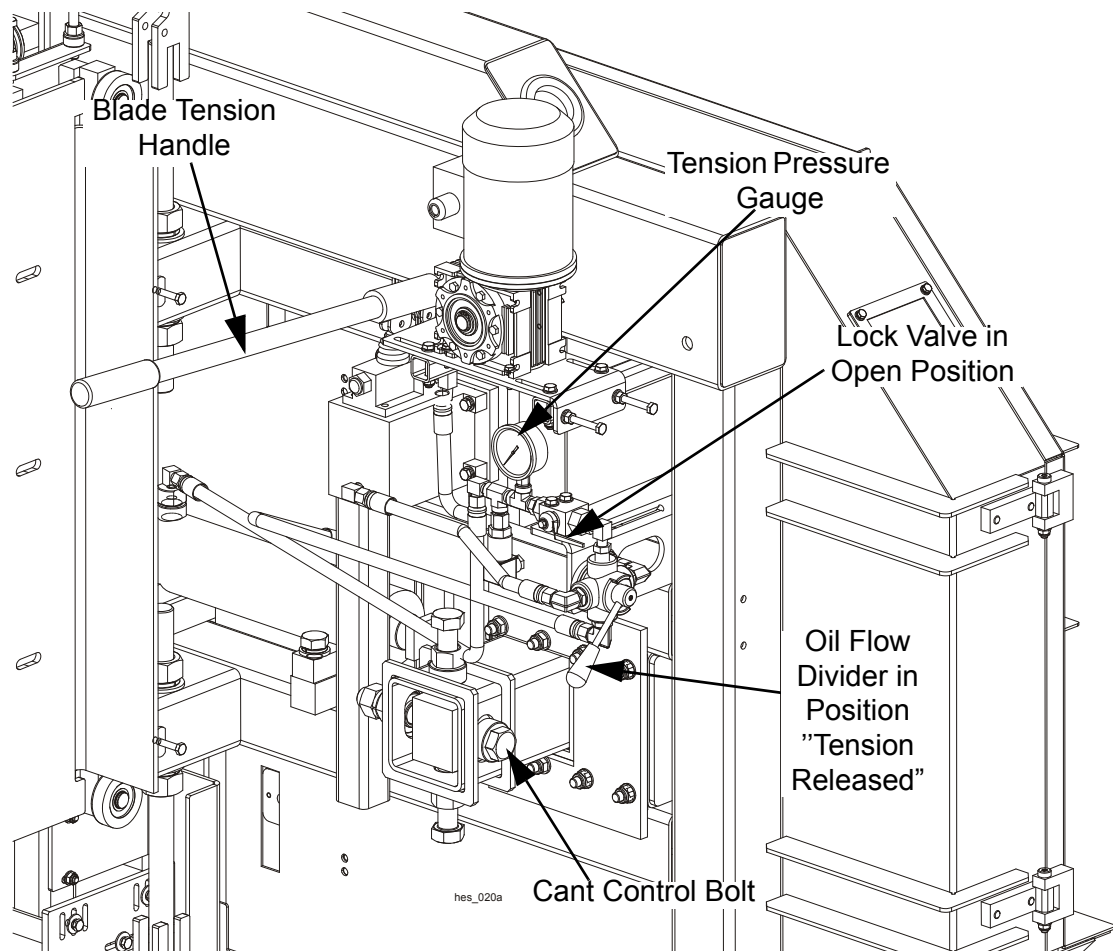

FIG. 4-2
See Figure 4-2.
5. Use the cant adjustment bolt, shown in **Figure 4-2**, to adjust when the blade travels on the blade wheels.